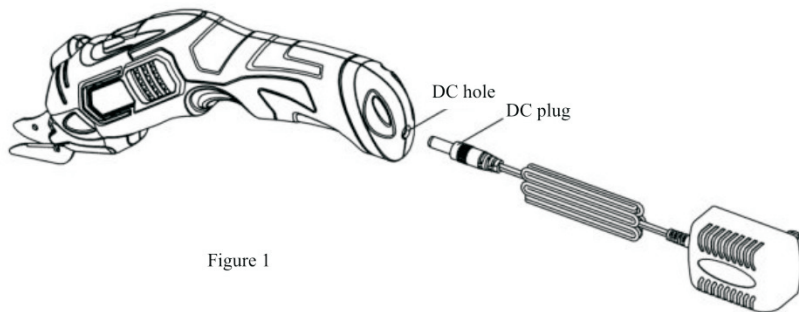

Figure 1
1. Charging operation (figure 1) (for cordless cotton shear)